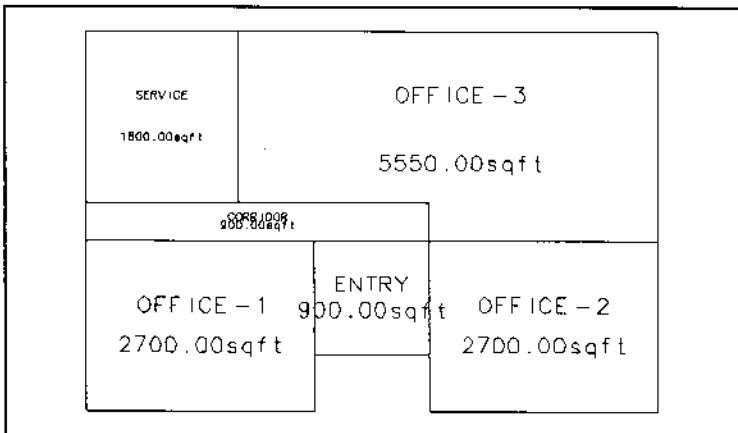

Figure 32.
1. Use the Dynamic command from the Space Diagram menu to create a space that will complete the plan as shown in Figure 32.